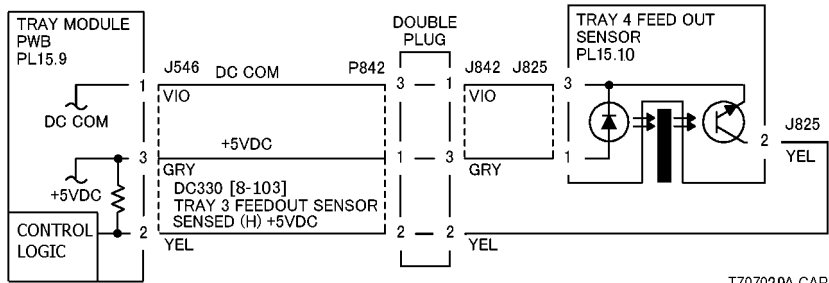
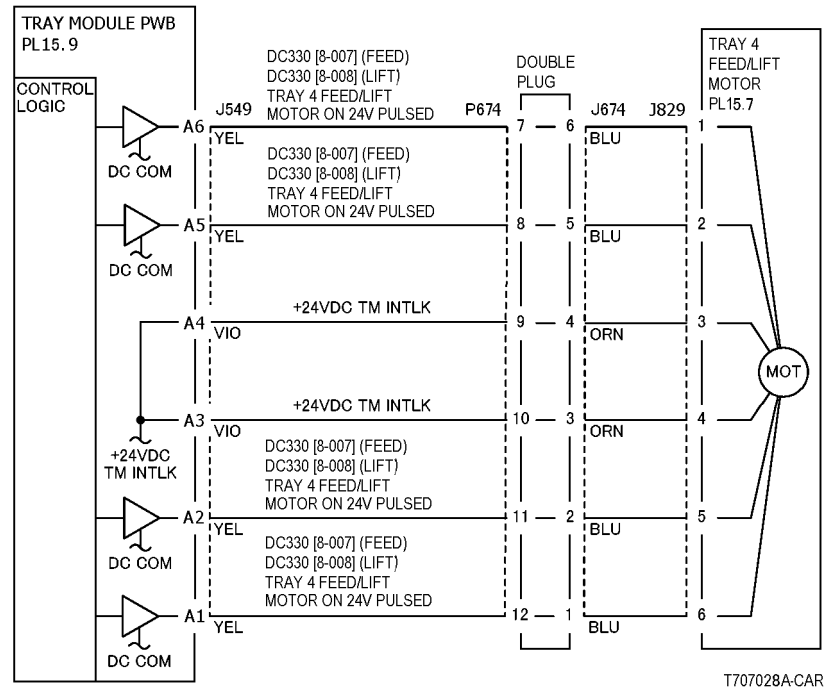
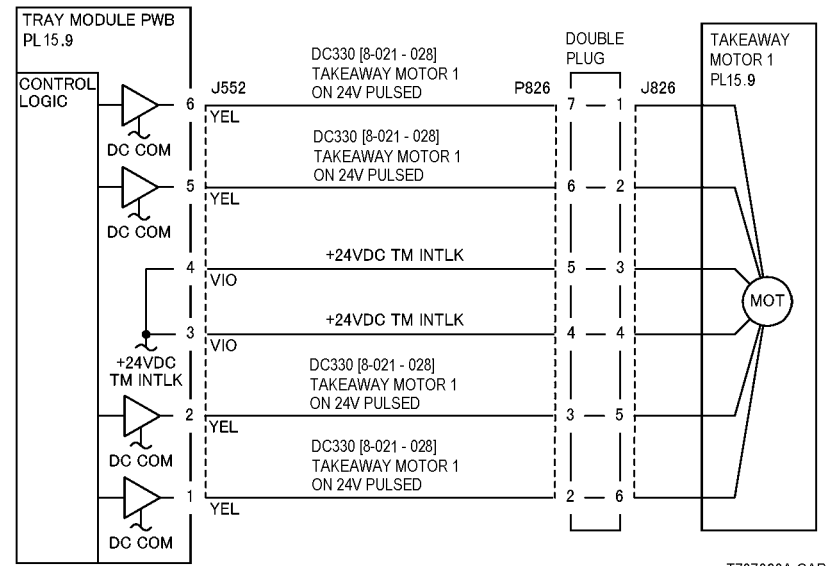

Figure 1 7-120 RAP Circuit Diagram - Tray 4 Feed Out Sensor
Figure 2 7-120 RAP Circuit Diagram - Tray 4 Feed/Lift Motor
Figure 3 RAP Circuit Diagram - Takeaway Motor 1
- Ensure that the connectors shown in the circuit diagrams (Figure 1, Figure 2, Figure 3) are securely connected and that wires are not damaged.